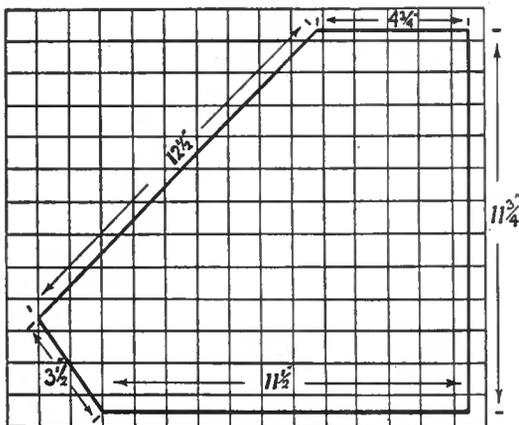

Fig. 2—Side piece. Each square equals 1in.
Use  $\frac{3}{4}$ in. wood and  $1\frac{1}{4}$ in. nails throughout. Cut the two sides according to Fig. 2. Nail a piece 9ins. by  $10\frac{1}{2}$ ins. at the bottom (Fig. 3, A), between the two sides. Then fix the back portion, 9ins. by  $10\frac{1}{2}$ ins. (B), which should rest on the bottom piece (A).